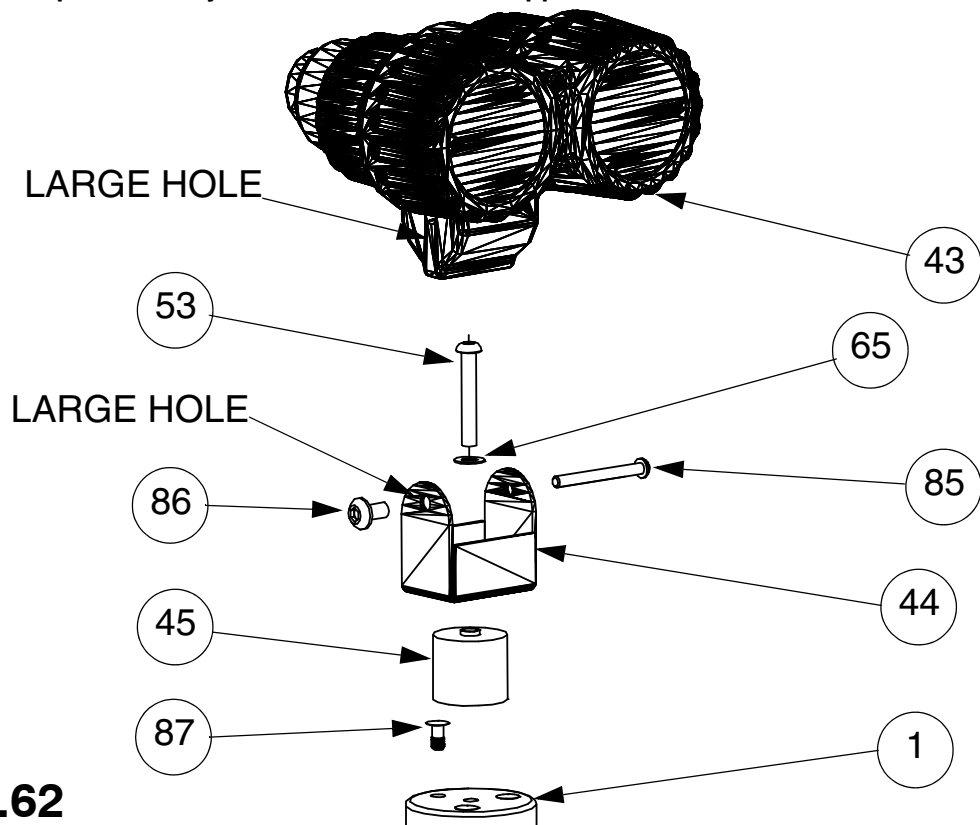

FIG.62
- 71) Insert and knock home with a soft hammer 3 off Protective Plugs (item 87) into the three outside holes in the top of the Straight Leg - 1200 Deck (item 1). See FIG.62.
- 72) Place small register diameter of Telescope Spacer (item 45) into hole on bottom of Telescope Mounting Bracket (item 44) and attach to the top of Straight Leg - 1200 Deck (item 1) using M10 x 65 Resistorx bolt (item 53) and M10 Washer (item 65). **The bolt should be tightened up sufficiently to allow the unit to be rotated with a reasonable force.** See FIG.62.
- 73) Place the Binoculars (item 43) the correct way round in the mounting bracket. Large hole to large hole and fix in position using the Moulding Fixing Bolt (item 85) and the Moulding Fixing Sleeve (item 86). **These should be tightened up sufficiently to allow the unit to be tipped with a reasonable force.** See FIG.62.